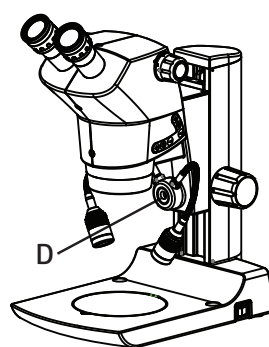

Fig.4
3. Refix the Goose neck LED assembly on bracket (D) using same 4.0mm Allen wrench. refer fig.4.